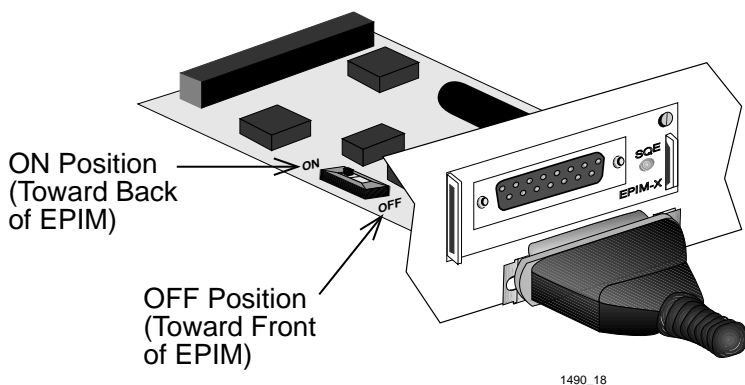

Figure 4-6. The EPIM-X
2. Attach one end of an AUI cable, no longer than 50 meters in length, to the port on the EPIM-X (Figure 4-6) and the other end to the intended node.